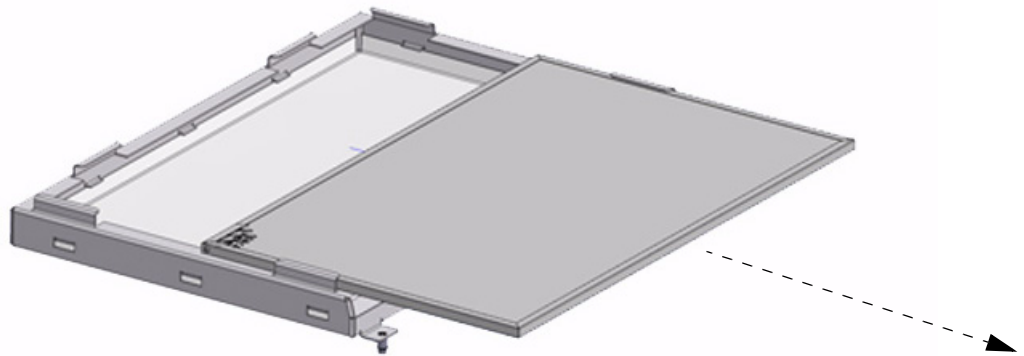

Figure A-2 Remove Filter
4. Place the filter door (screws side down) on a level surface, then remove the filter by sliding it through the retaining brackets, as shown in Figure A-2.